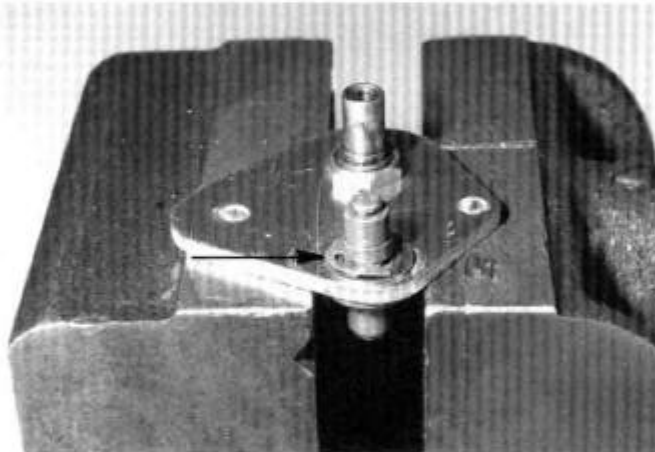

FIG. 38
□ **FIG. 38**—Install the clip all the way on. Make sure it is fully seated.